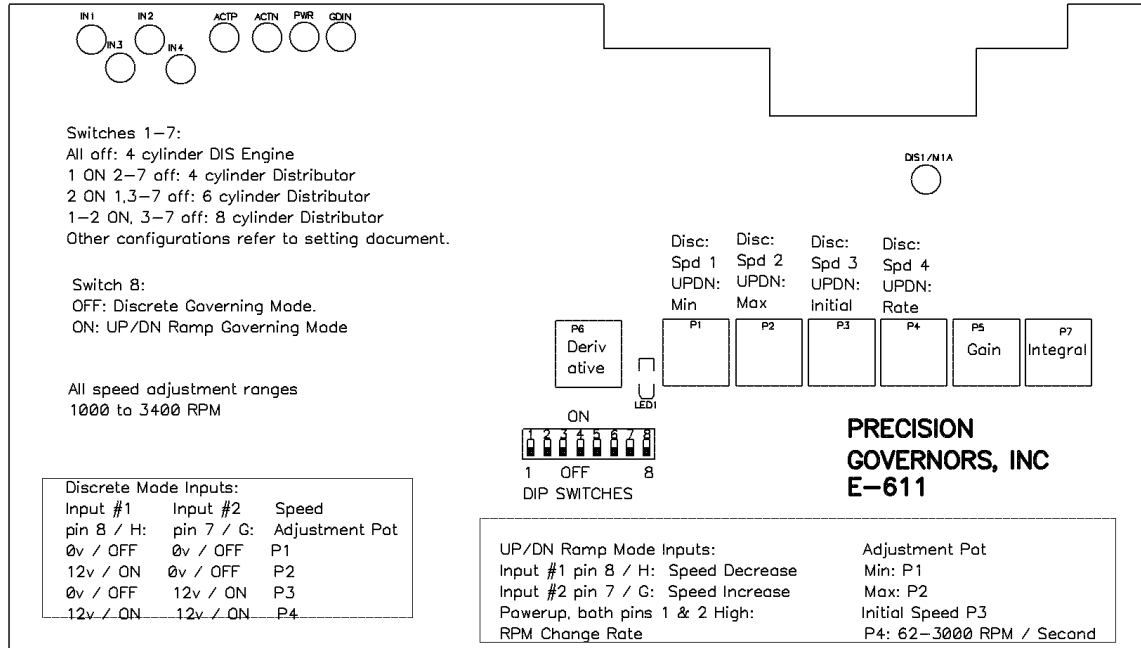

Figure 5: Controller Adjustments and DIP switch
The E-611 controller requires a DIP switch to be configured to select the proper engine speed signal type and frequency ratio. It additionally can be configured to operate as either a fixed speed where it runs 1 of up to 4 different speeds based on 2 speed select inputs OR operates as a cruise control where the user can ramp the speed up or down with momentary contact faster / slower input switch(s). Refer to Figure 5 for the location of DIP switches and adjustments.
For other speed inputs, refer to the speed range adjustment in Figure 5. The controller needs to know the speed pickup frequency to engine speed ratio to obtain the correct speed range. Diesel engines typically have between 90 and 130 flywheel teeth (Pulses / Rev). If in doubt, select a lower pulse per rev setting and change to a higher setting if engine speed cannot be adjusted high enough. The mag pickup frequency can be measured and compared to the high and low limits in the table.
- 4) Before proceeding, familiarize yourself with the locations of the **Speed adjustment** pots and the **Gain, Integral, and Derivative** Pots, see Figure 5. Read the section on **Adjustments**.